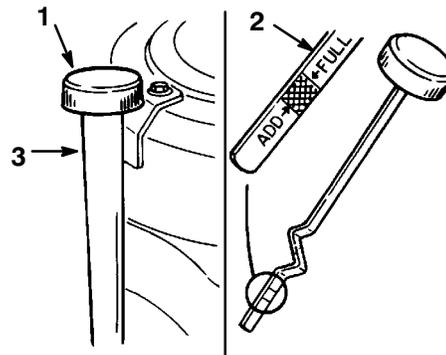

Figure 30
3. Clean around the oil dipstick (Fig. 30) so dirt cannot fall into the filler hole and damage the engine.
4. Unscrew the oil dipstick and wipe the metal end clean (Fig. 30).
5. Screw the oil dipstick fully onto the filler tube (Fig. 30). Unscrew the dipstick again and look at the metal end. If oil level is low, slowly pour only enough oil into the filler tube to raise the level to the "FULL" mark.
- Slowly pour approximately 80% of the specified amount of oil into the filler tube (Fig. 30). Now check the oil level; refer to Checking Oil Level, page 32, steps 4-5.
- Slowly pour approximately 80% of the specified amount of oil into the filler tube (Fig. 30). Now check the oil level; refer to Checking Oil Level, page 32, steps 4 and 5.